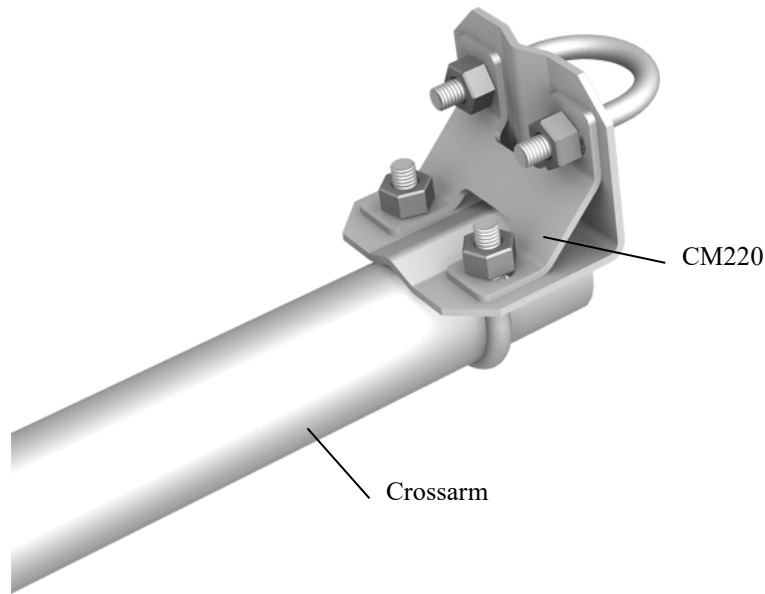
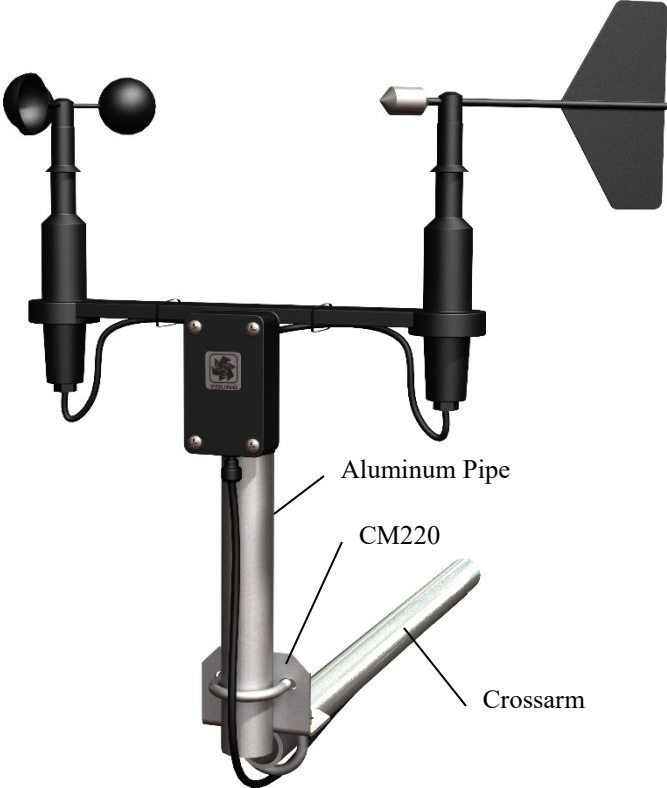
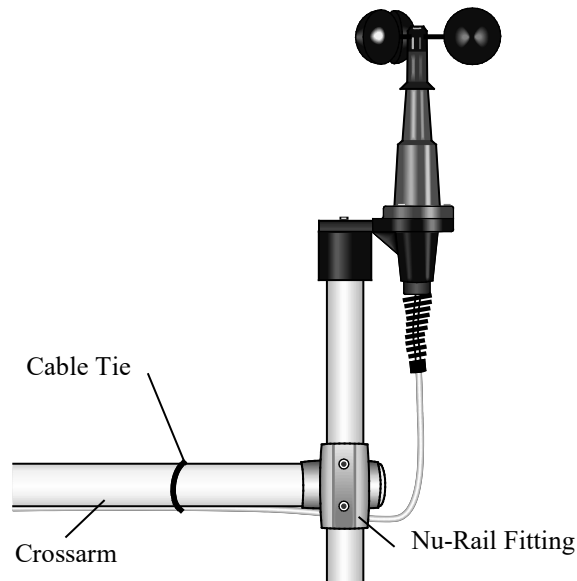

FIGURE 7-1. Crossarm with CM220 Right Angle Mounting Bracket
FIGURE 7-2. 03002 mounted to a crossarm with the CM220
FIGURE 7-4. 03101 mounted to a crossarm via a 3/4 x 1 inch Nu-Rail fitting
- CM220 Right-Angle Mounting Kit (FIGURE 7-1 and FIGURE 7-2),
3. Secure the 3/4-inch IPS, 10-inch-long, threaded aluminum pipe to the CM220 mount (FIGURE 7-1) or 3/4 x 1 inch Nu-Rail fitting (FIGURE 7-4).